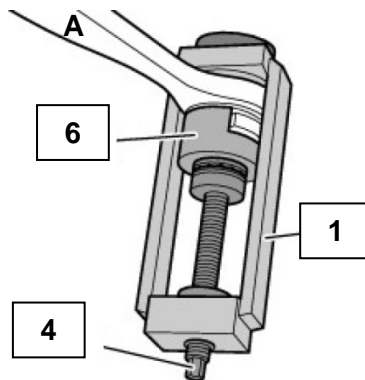
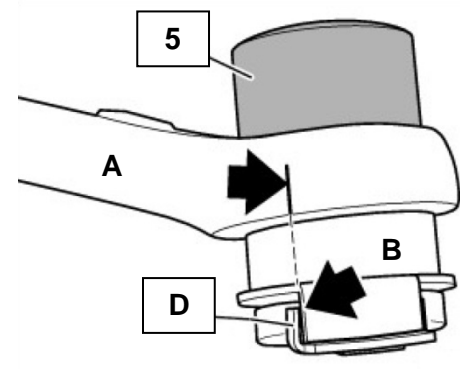

Fig. 5
Fig. 6
3. Insert the ball joint into the pressure sleeve (6). In doing so, make sure that the ball joint is positioned correctly in the recess (see Fig. 5).
4. Press the spindle far enough out of the press frame (1).
6. Position the press frame (1) on the wishbone. In doing so, take care that the guide sleeve (5) is seated in the hole of the press frame and that the ball joint is aligned correctly (see Fig. 6).
8. Check the correct seating of the tool and press the ball joint into the wishbone using the spindle (4) (see Fig. 5).